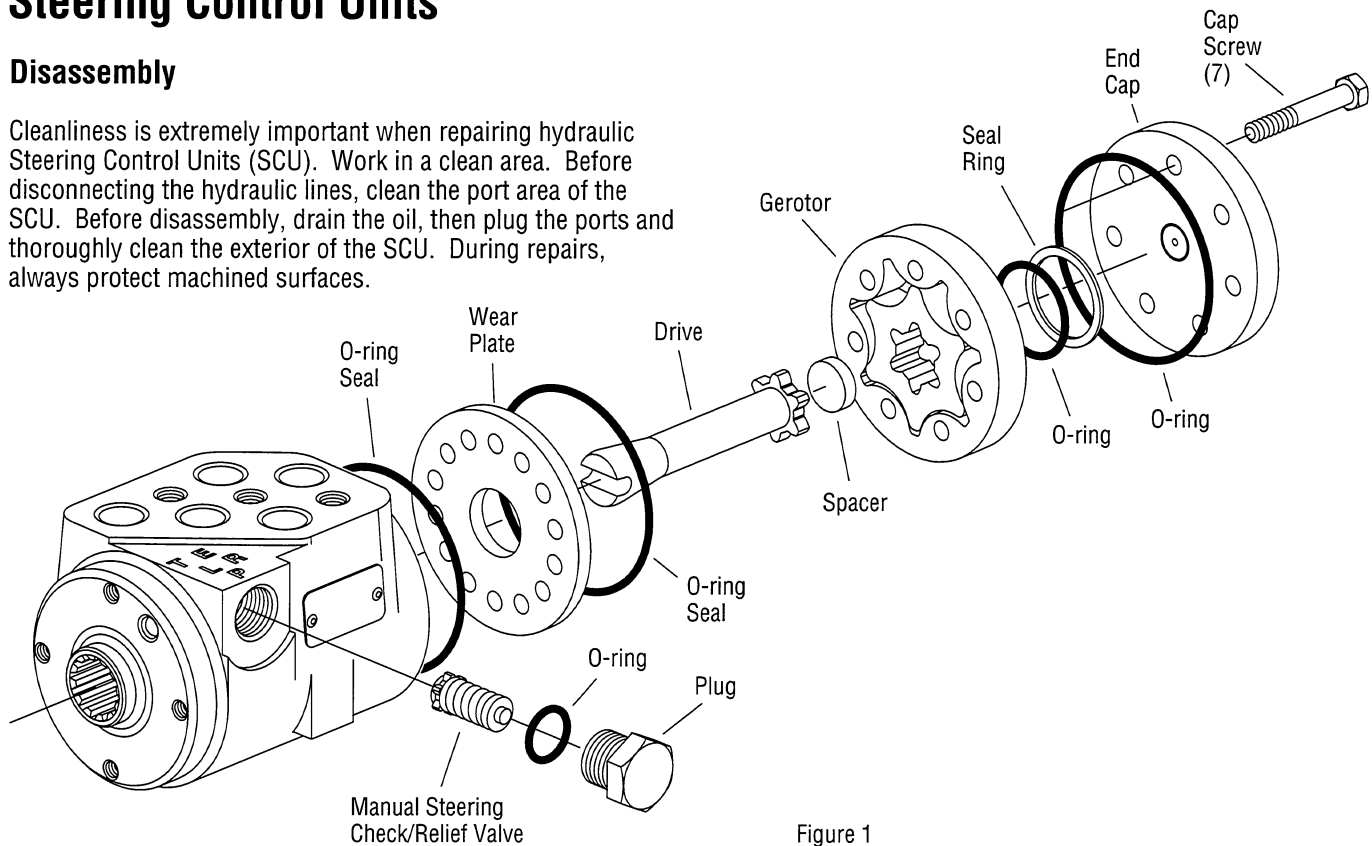

Figure 1
**1** Remove the 7 cap screws and disassemble the SCU as shown in figure 1.
**2** Remove the plug and manual steering check as shown in figure 1.